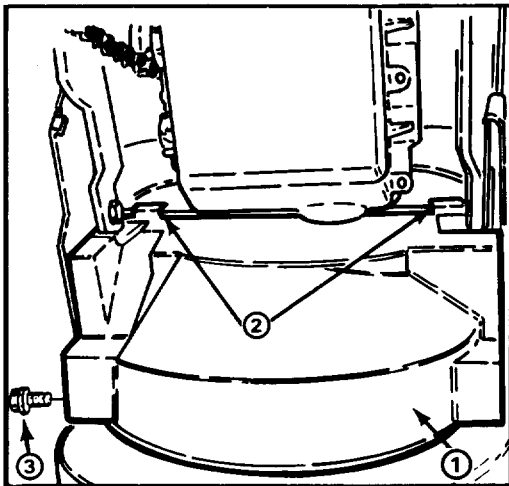

Figure 2
7. Mount lower belt cover to underside of auger housing and engine frame with (2) 1/4-20x1/2" lg. flange head capscrews (Fig. 2). Make sure belt cover mounting tabs are positioned to rear of engine frame member.